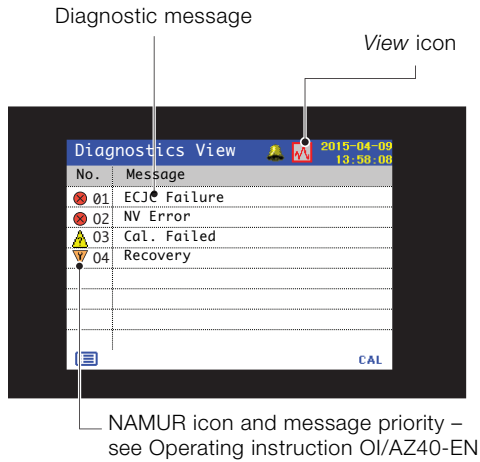

Fig. 28 Diagnostics view
- *Diagnostics view* – displays a list of active diagnostic messages identified by priority and message (see Fig. 28)